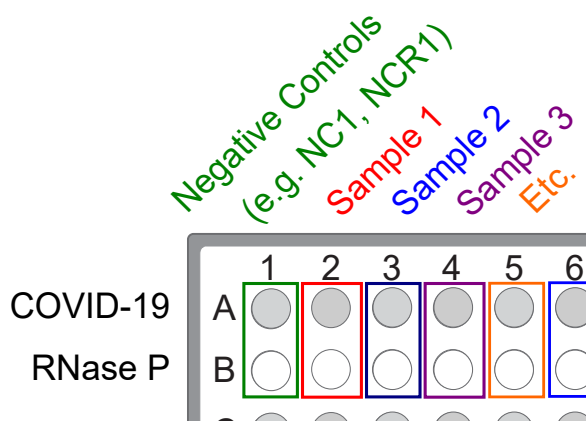

Figure 6 Paired sample and Negative Control wells for each assay
- Unseal the extraction plate, then add Negative Control from the single well of the extraction plate to wells A1 and B1 of the reaction plate, as shown in Figure 6 on page 59.